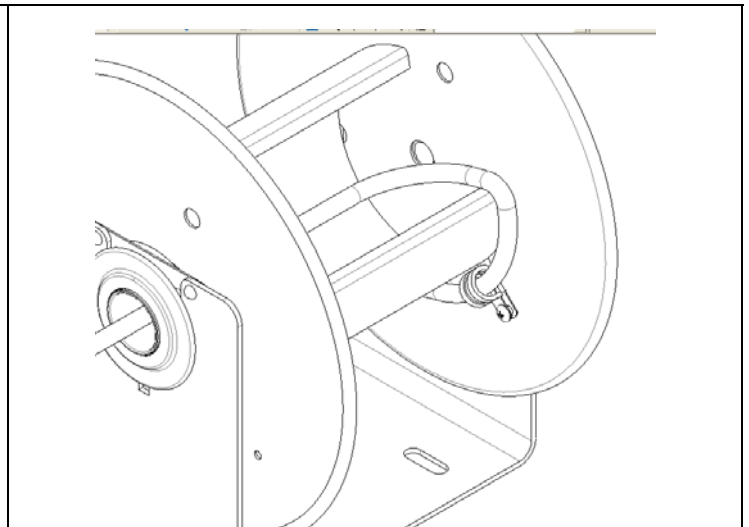

FIGURE 1.1
- Use one of the enclosed clamps to secure the cable/hose to the disc on the handle side. (See Fig 1.1) The sizes of the clamps, Coxreels® part numbers, and correlating cable/hose sizes are shown. (Chart 1.0)